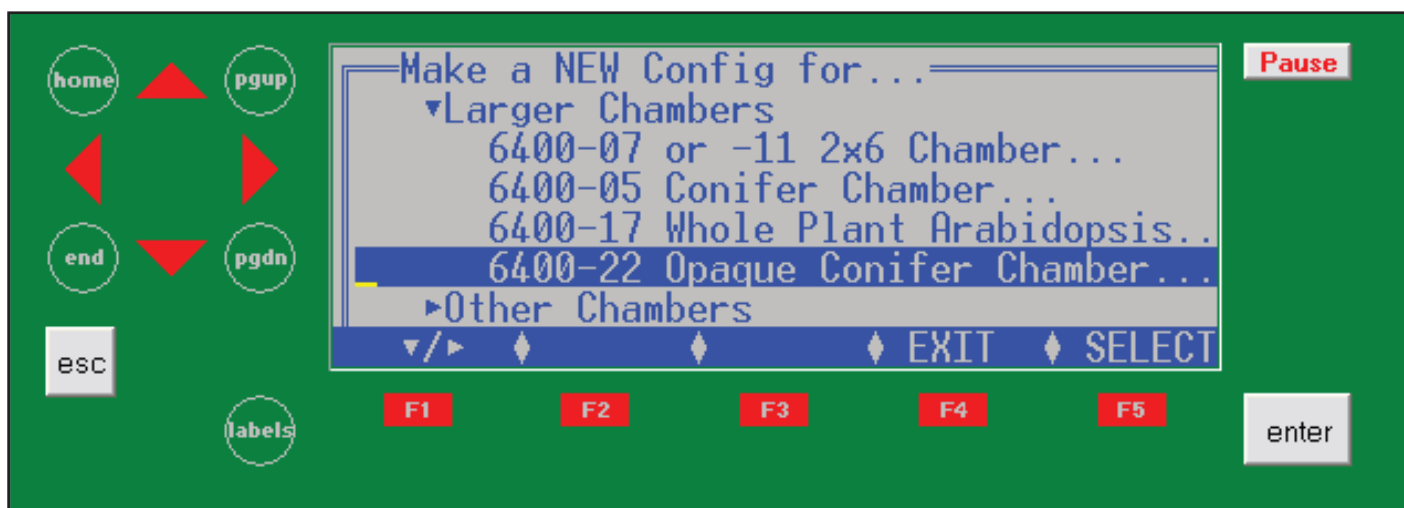

Figure 9. Select the "6400-22 Opaque Conifer Chamber" and you will be prompted to choose a light source.
22. The 6400-22 software is accessed in the Config Menu (f2). Select "New...", and scroll to "Larger Chambers" and expand this list (▼/▶). Select the "6400-22 Opaque Conifer Chamber" (Figure 9). When prompted, select the desired light source (RGB) and then save as a new (N) configuration. See the LI-6400/LI-6400XT instruction manual, Chapter 16, for more information about configurations.